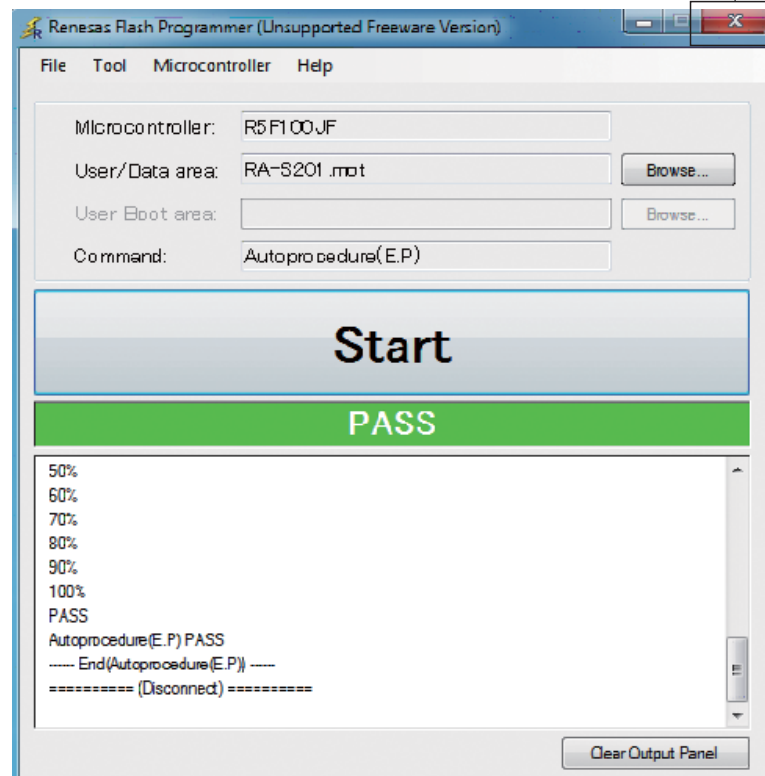

Fig. 7
11. When writing of the firmware is completed, the screen appears as shown below. (Fig. 7)
12. Click [X] to end RFP.exe. (Fig. 7)